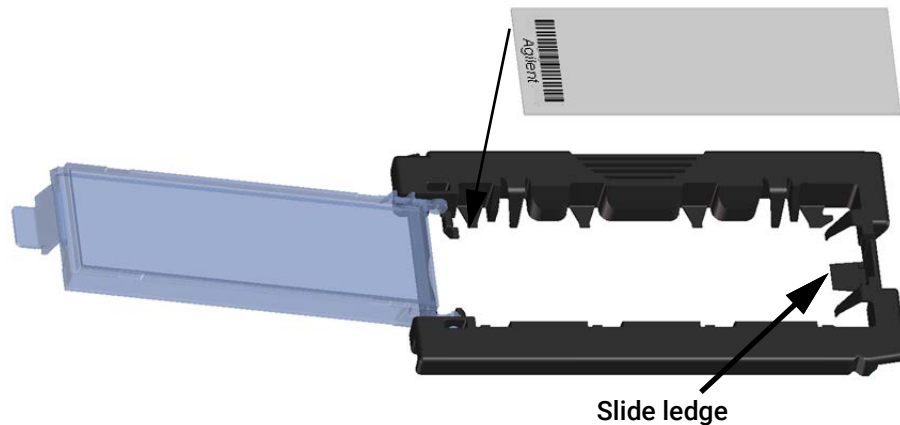

Figure 19 Inserting slide into the slide holder
- a Hold the slide at the barcode end and position the slide over the open slide holder. Make sure that the active microarray surface faces up with the barcode on the left, as shown in **Figure 19**.
- b Carefully place the end of the slide without the barcode label onto the slide ledge. See **Figure 19**.